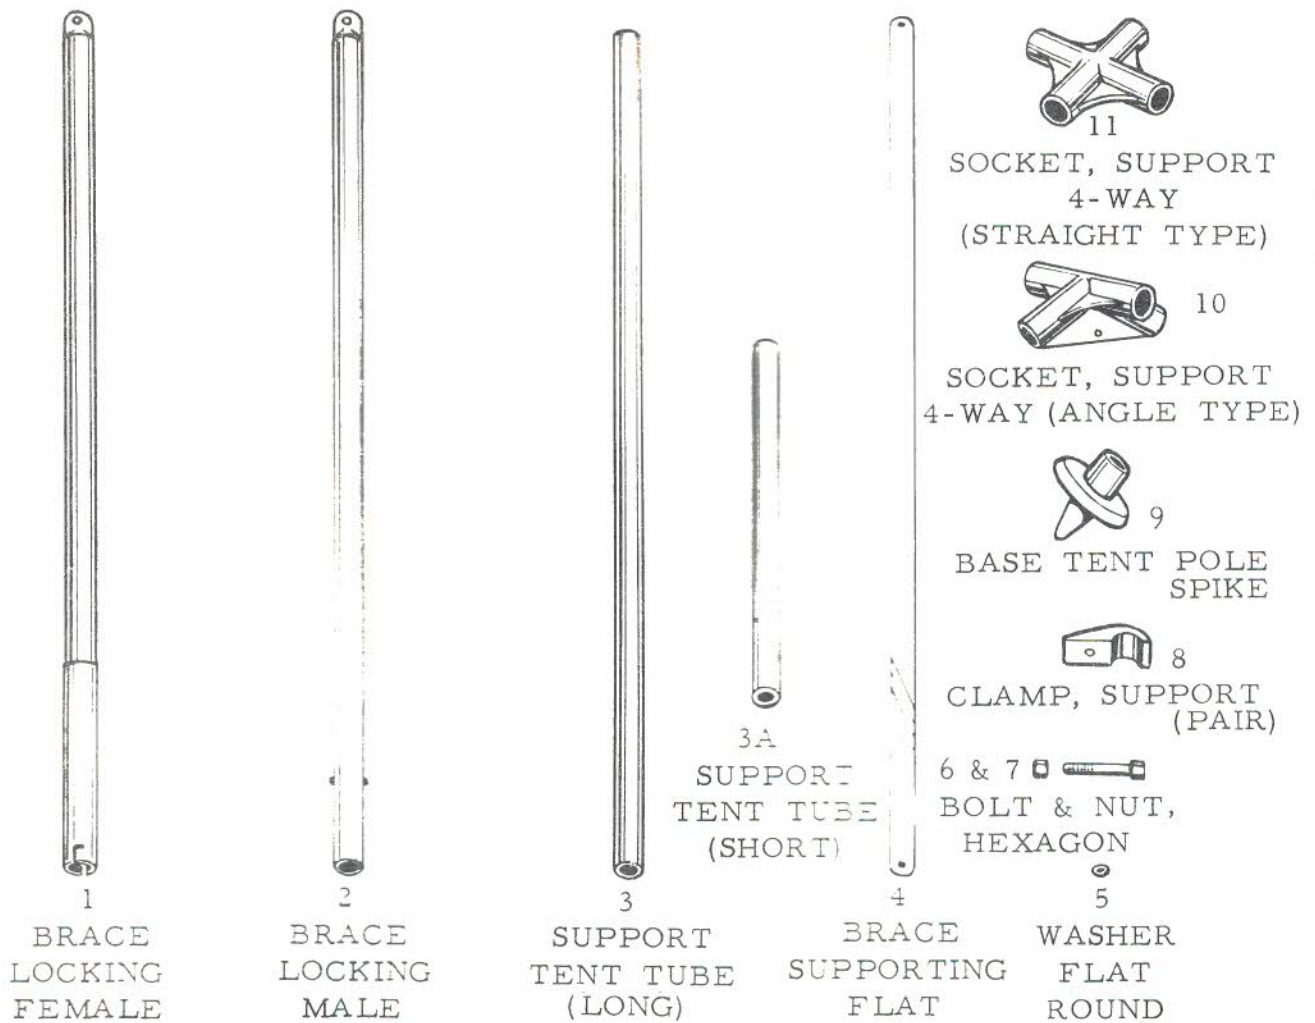

FIG 3 - FRAMEWORK COMPONENTS
5. Fig 3 shows the components used in the construction of the metal framework. The function of each component is described in the following paragraphs. Abbreviated nomenclatures are used to facilitate description of the erection drill which is detailed in Chapter Two. The full nomenclatures, together with the quantities of each item used, are given in Table 1.
12. The use of all framework components is shown in Fig 10. The quantities of each component used are as follows (in the same order as illustrated in Fig 3).